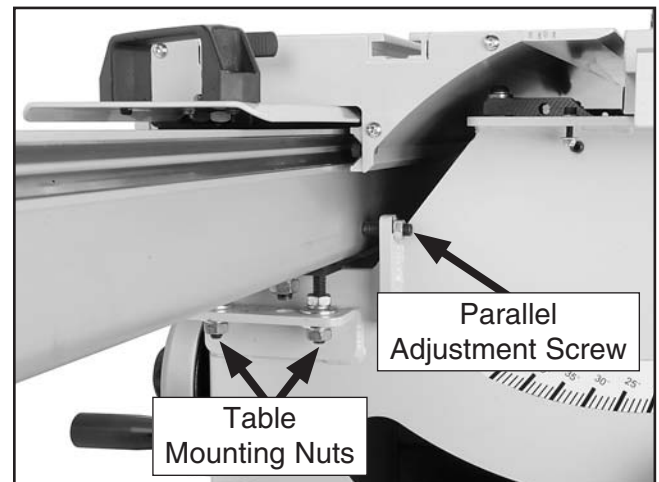

Figure 119. Table parallelism adjustment controls.
7. Loosen the sliding table mounting nuts (see **Figure 119**) at both mounting locations.
9. Slowly rotate the parallel adjustment screw (see **Figure 119**) as necessary to move the table. If you move the adjustment screw away from the table, then push the table against the screw before proceeding.